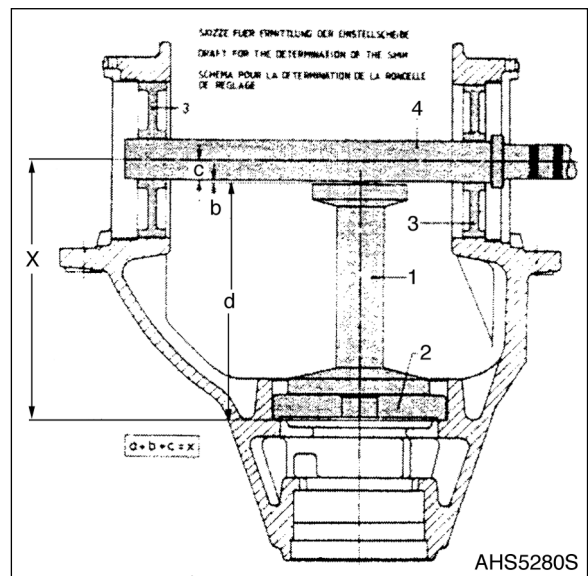

Figure 153
NOTE: When replacing a complete crown wheel set or axle carrier, pay attention to the Figure 153.
1. Install adjusting pieces (3) and temporarily fasten the two bearing caps. Install stop washer (2) and measuring pin (1) and introduce measuring shaft (4). (See Figure 153.)